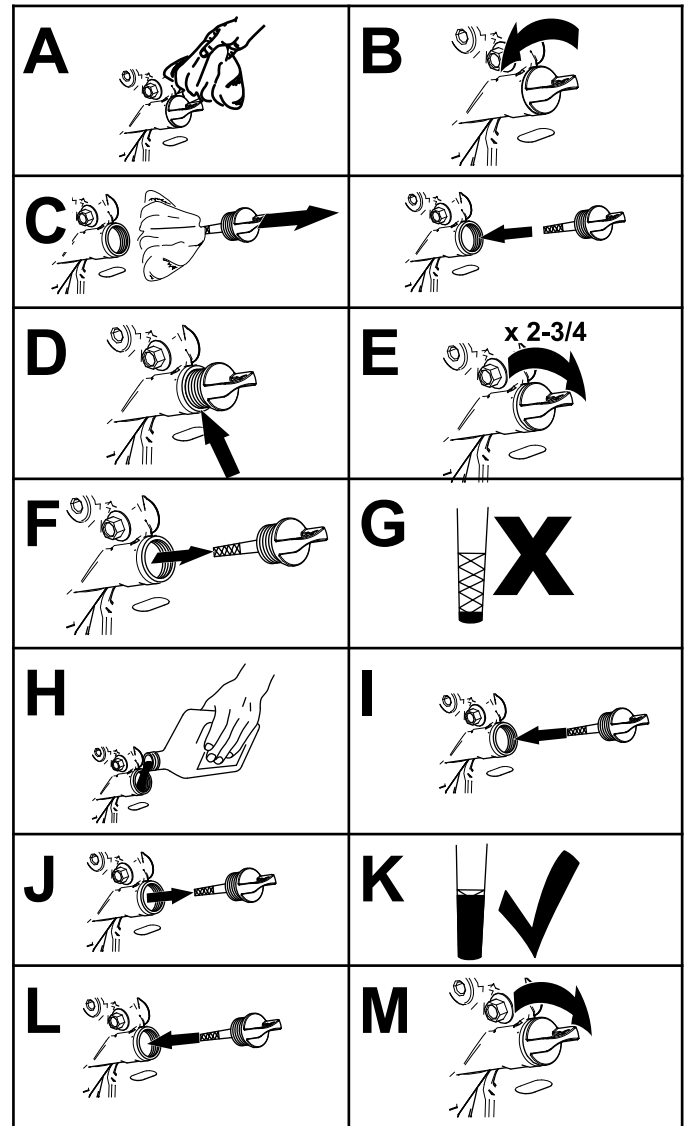

Figure 35
- Check the engine-oil level as shown in Figure 35.